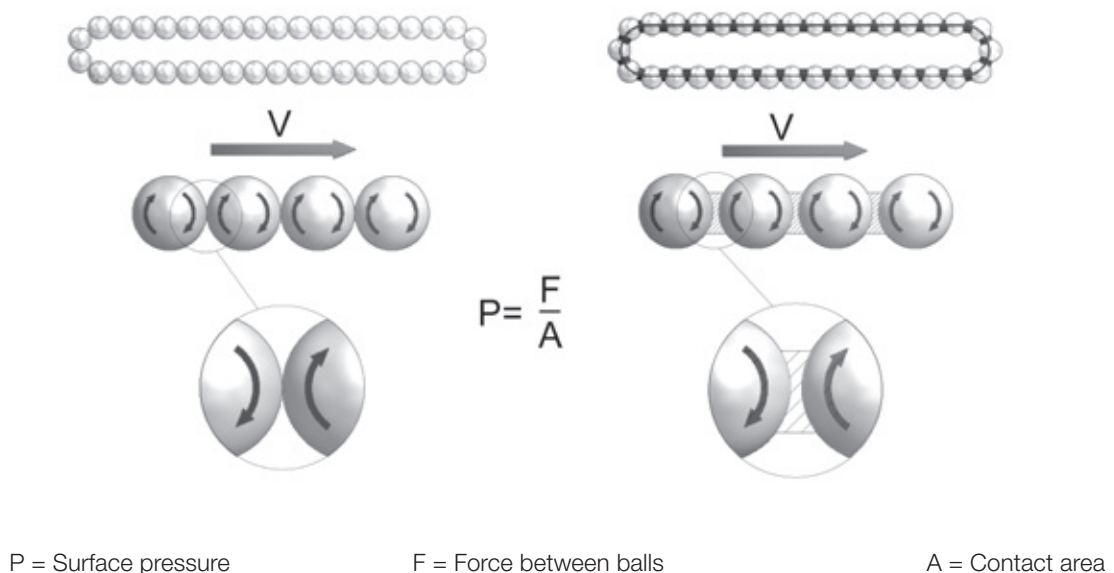

Figure 1.6 Schematic view of the contact surfaces
The rotating balls in conventional linear guides have point contact between each other (Figure 1.6). The rotation speed at the contact point is double that of the speed of the balls. The contact area (A) is so small that the surface pressure (P) tends towards infinity. This leads to heating and wear of the balls and the linear guide system. The chain in linear guides with ball chains has the function of a cage. Contact between the balls is prevented (Figure 1.6). The ball and the chain also have a relatively large contact area (A) that significantly reduces the surface pressure (P). The rotation speeds at the contact surfaces of ball and chain correspond. The ball chain is further used to transport the lubricant and to create a lubrication film on the balls. The design of the carriage allows effective supply with lubricant from the lubricant connection to the circulation areas of the ball chains (Figure 1.7).